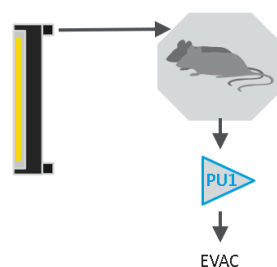

Figure 3. Testing Pulling Pump performance using a WBC
3. For a pulling PU, the rotameter will connect to a BC, FC or WBC upstream of the PU (Figure 3)